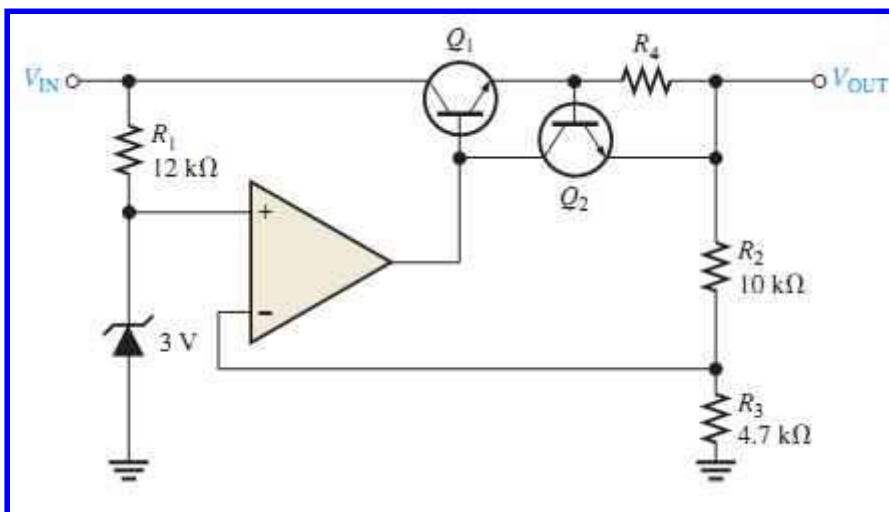

FIG. 47
10. A series voltage regulator with constant-current limiting is shown in FIG. 47. Determine the value of R_4 if the load current is to be limited to a maximum value of 250 mA. What power rating must R_4 have?